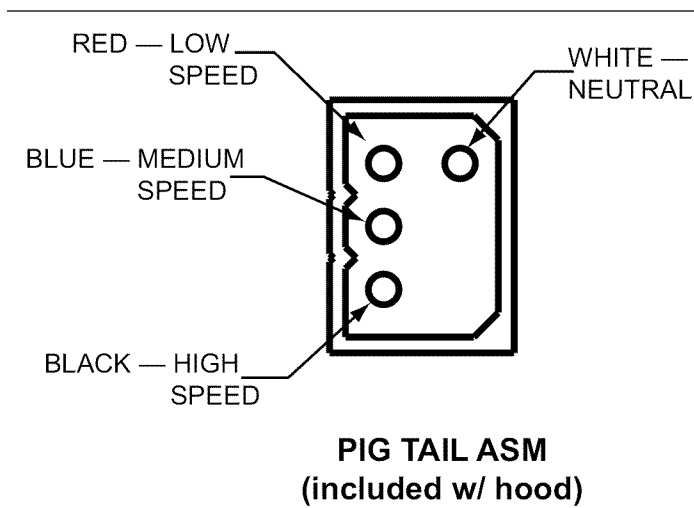

Figure 21: Wiring the Hood with an Inline Blower
4. Connect the power supply wires to the hood wires in the following order: black to black, white to white, and green wire to green ground screw on chassis. Use spring type wire nuts supplied. (Lost or missing wire nuts should only be replaced with: Spring type wire nuts, rated for a minimum of (2) # 18ga wires and maximum of (4) #14ga wires, UL & CSA rated to 600V and 302° F./150° C).
6. Run five (5) wires (#14 AWG) in 1/2" conduit from the inline blower to the second conduit connector.
7. Connect the inline ventilator to the pigtail wires (Step 6) as per Figure 21. Connect the inline blower green (ground) wire to the ground screw in the junction box.